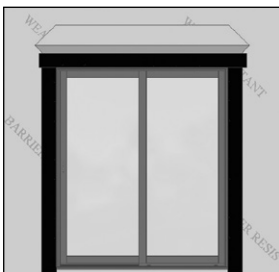

FIG. 21
- B) If non-adhesive flashing is used, make sure all staple holes are sealed with silicone. (Fig. 21)
- C) Cut and apply head flashing. The head flashing should run slightly past the edge of the side flashing as shown. (Fig. 21)